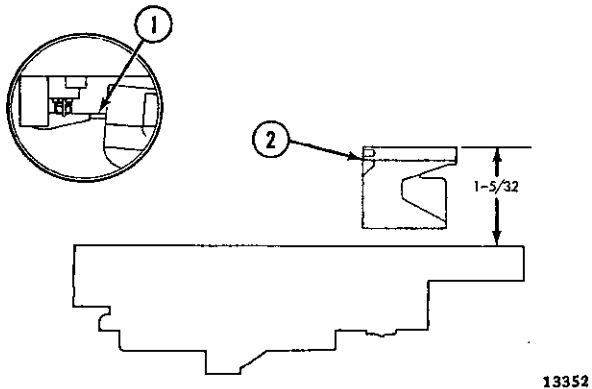

FIG. E-23—FLOAT LEVEL ADJUSTMENT
j. With air horn assembly inverted, measure the distance from the air horn gasket to top of float at toe $1\frac{3}{32}$ " [27,78 mm.] for standard carburetors and $1\frac{5}{32}$ " [29,36 mm.] for exhaust emission control equipped carburetors, as shown in Fig. E-23. Use float level gauge J-5127-2. Bend float arm as required to adjust float level.